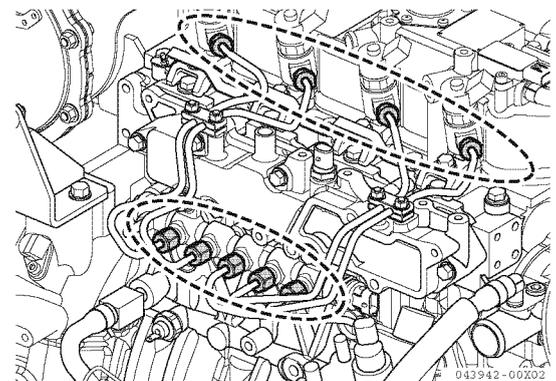

Figure 7-7
1- Clean around the cap nuts on both the injector and rail sides, using a brush or aspirator. (**Figure 7-7**)
- 3- Loosen the cap nut (1, **Figure 7-7**) of the high-pressure pipe on the common rail side in the same manner.